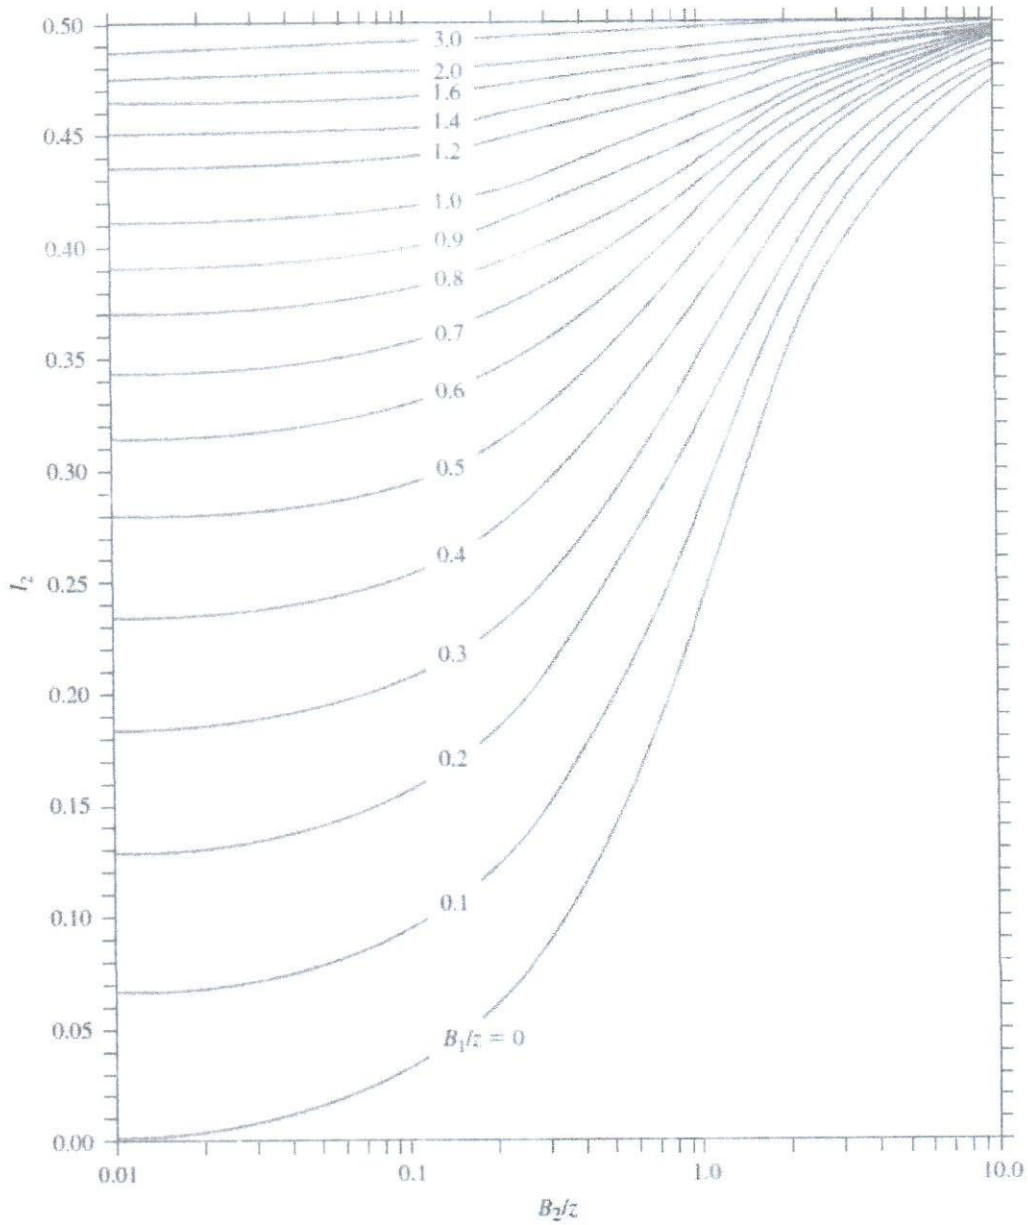

Fig. 8 Osterberg's chart for determination of vertical stress due to embankment loading
- 2(b). An embankment is shown in Fig. 1, determine the stress increase under the embankment at point A. Unit weight of the embankment soil, $\gamma = 18.0 \text{ kN/m}^3$. Use Fig. 8 for getting I_2 . (15)